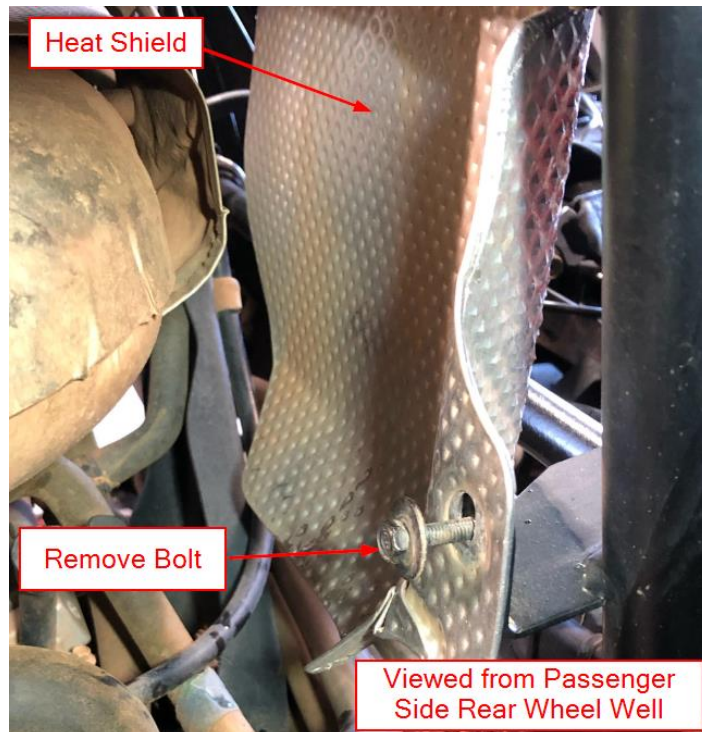
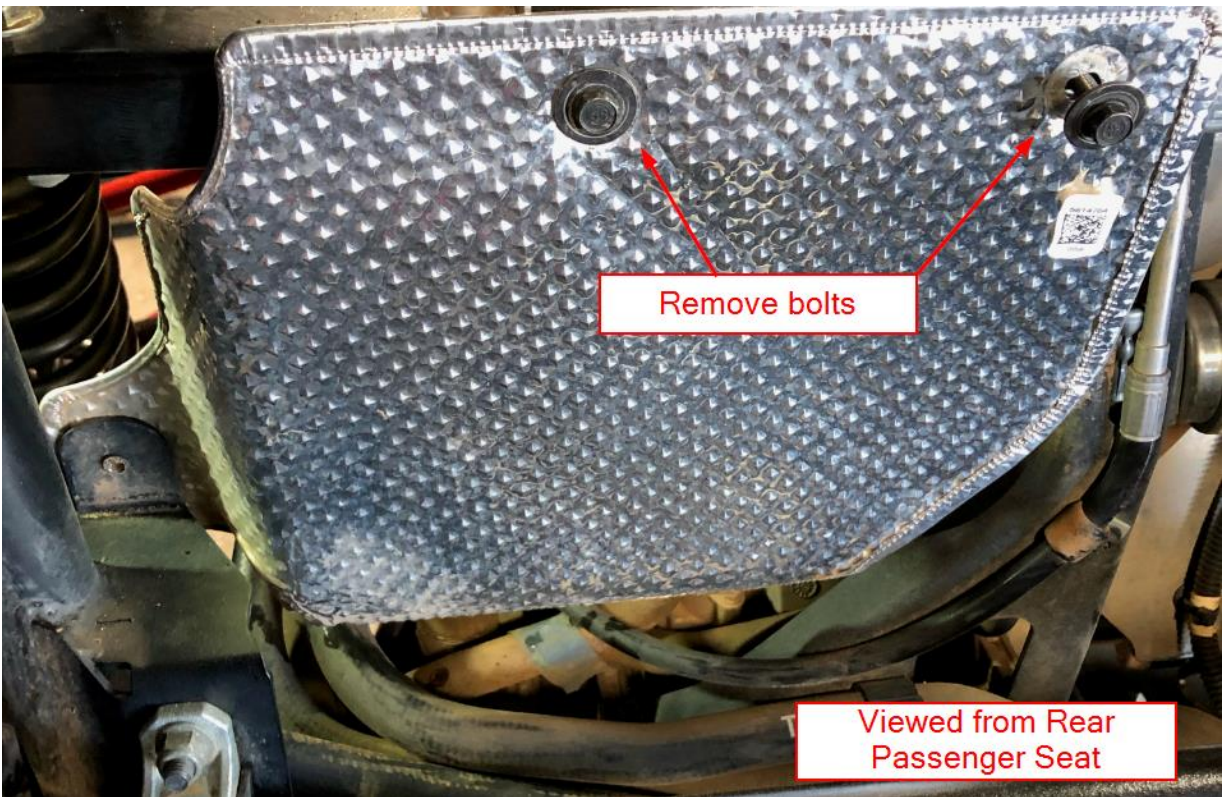

Figure 16
Figure 17
- j. Remove the rear seat back panel to expose the heat shield shown in Figure 16 and Figure 17. Remove the hardware shown to gain access to the engine cooling lines.